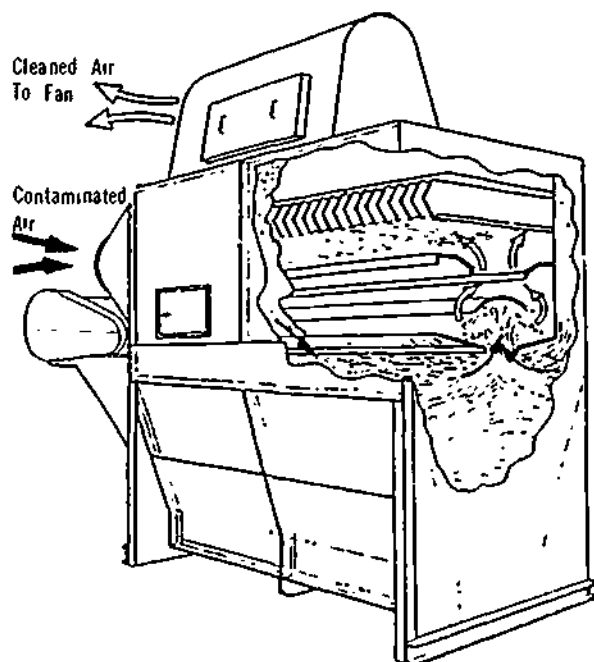

Figure 11-14. Self-Induced Spray Scrubber
**Self-Induced Spray Scrubber** The self-induced spray scrubber (Figure 11-14) operates by causing the gases to be drawn under baffles, partly submerged in water, thus generating a dense spray. This section is followed by a wetted wall and finally a spray elimination section. These scrubbers give a good performance even with dusts as fine as 2.5 microns.